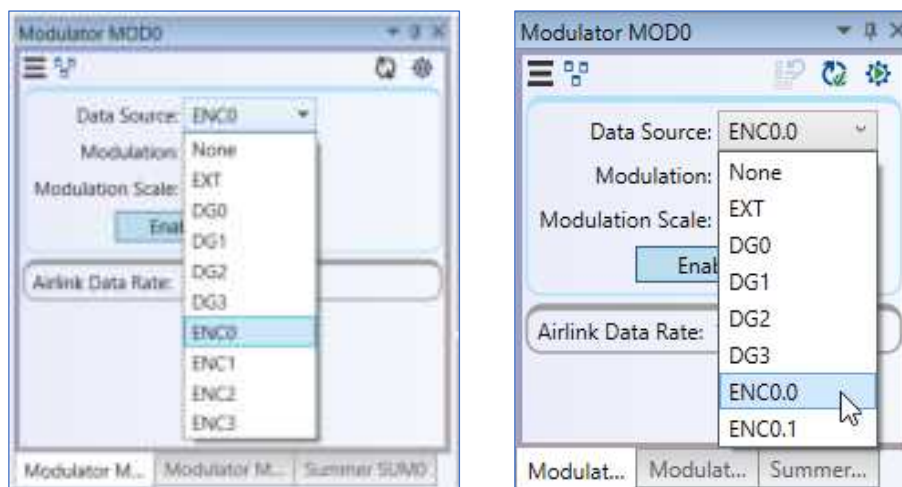

Figure 176: Data Source Drop Down Menu
- Data Source – Select from data sources from Data Generators 0-3, Encoders 0-3, External, or None, shown in Figure 176